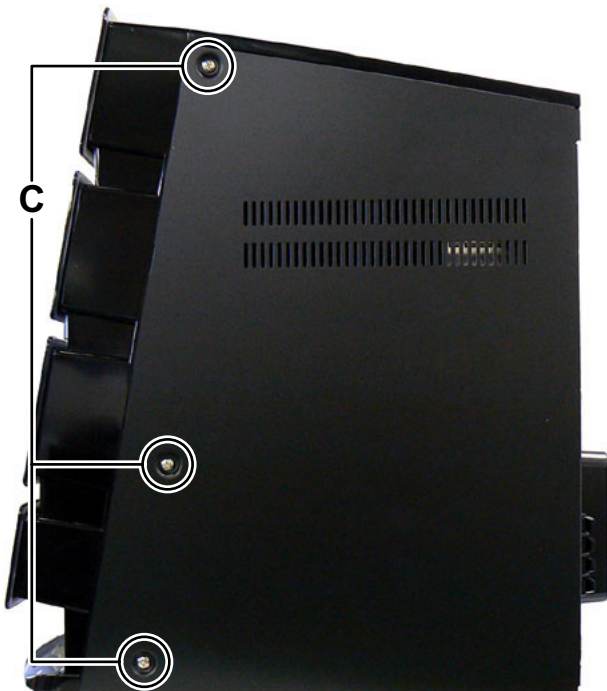

Fig.2
- (2) Remove the six screws **C** attaching the both side of the Side panel and then side to backward to remove the Side panel. (See Fig.2)